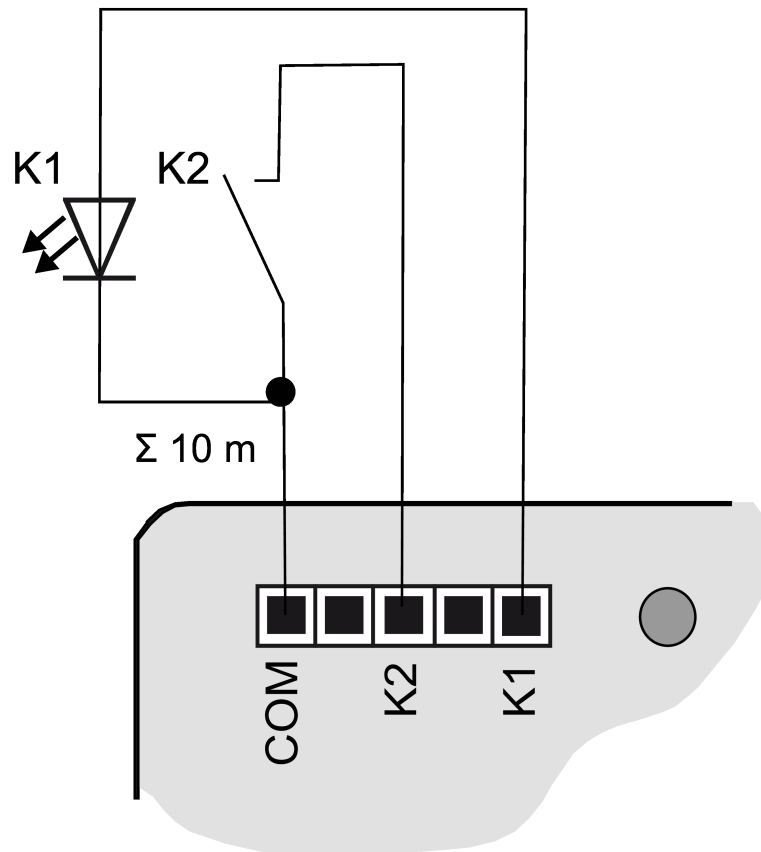
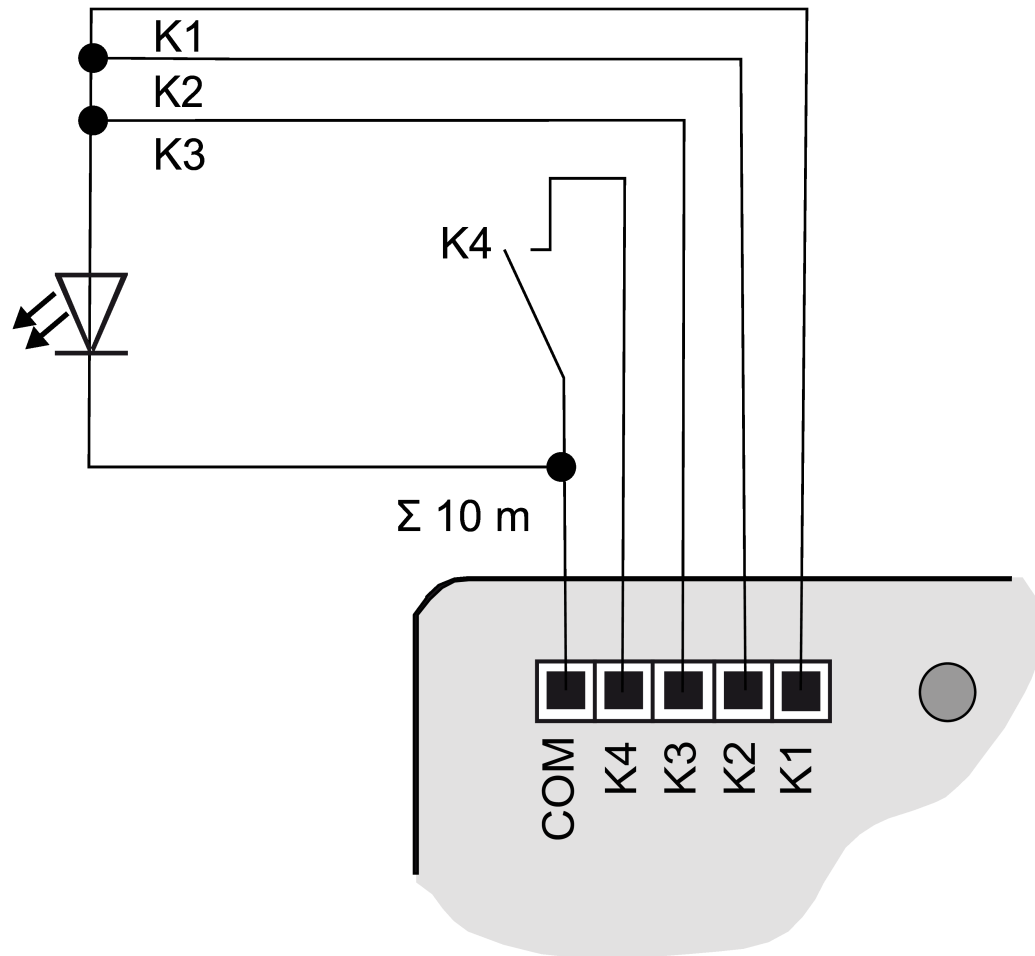

Figure 6: Connection example: push-button interface 2-gang
Figure 9: Connection example with outputs switched in parallel
- Connect push-buttons, switches, contacts or LED to enclosed connecting cables (4) according to the connection examples; (see figure 6) to (see figure 9). The connection examples show the use with inputs and outputs.
- i** To increase the output current, outputs can also be switched parallel to each other with the same parameterization; in the example here, (see figure 9) K1-K3 are switched in parallel.